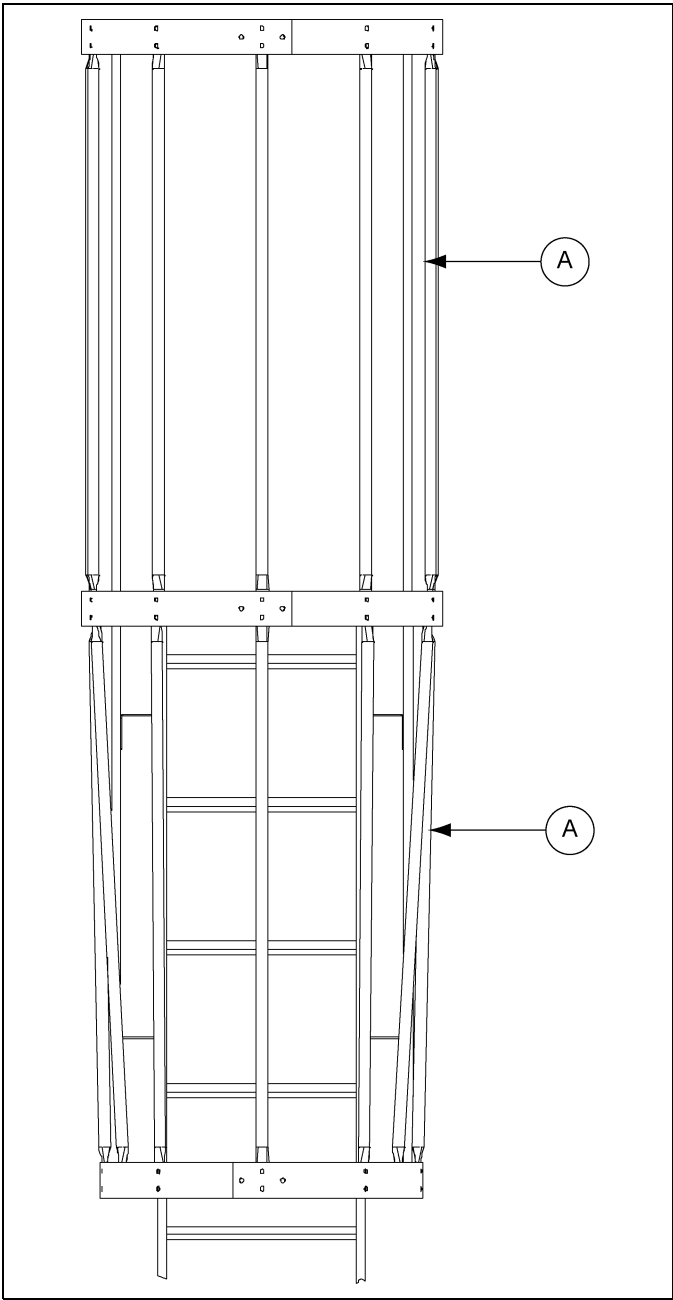

Figure 10F
After all three (3) hoop assemblies are in place, attach the 48" vertical supports from hoop assembly to hoop assembly as shown in Figure 10F. This requires fourteen (14) supports, seven (7) between each set of hoops. The second set of vertical supports must be bent at the flat area to allow for the tapering of the bottom hoop assembly. Use 5/16" x 3/4" bolts with the head of the bolt to the inside of the safety cage.